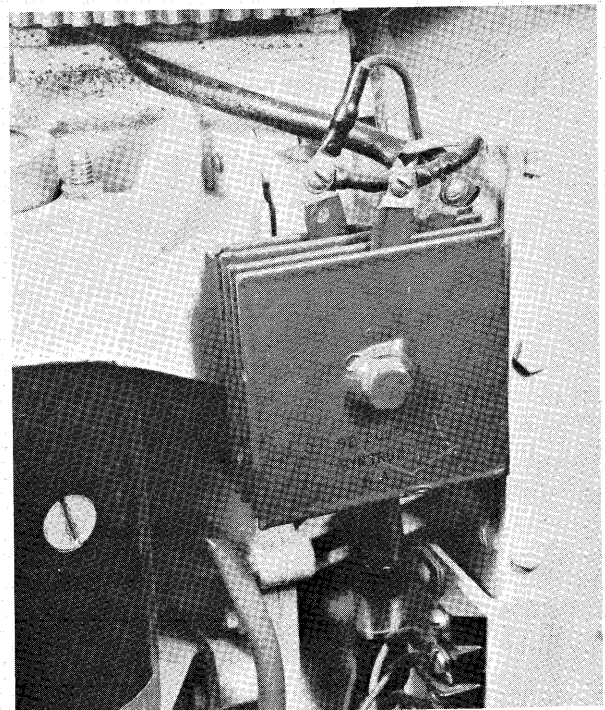

Figure 4—Selenium Type Rectifier
- A. Disconnect black lead wire and purple lead wire from inside terminal (marked with yellow paint) by removing screw securing same. See figure 4.
- C. Install bracket assembly to powerhead and secure with two (2) screws.
- D. Connect black lead wire and purple lead wire to inside terminal of rectifier (marked with yellow paint) and secure with screw and lockwasher. See figure 4.